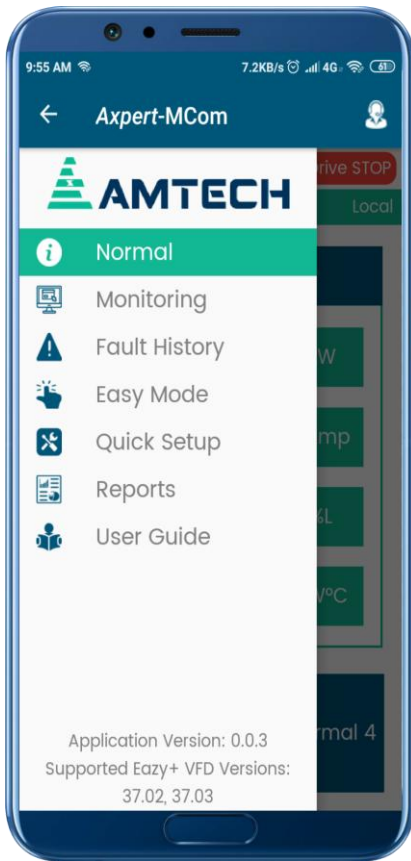

Figure 16: Navigation drawer
- A drawer will open with different options (Figure 16).